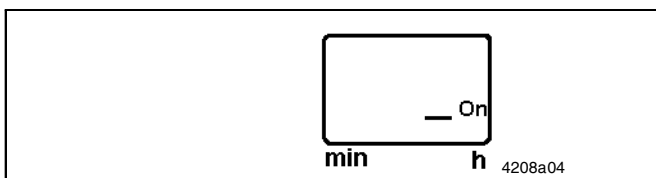

Fig. 18 Green segment right, supply voltage switched on
- As soon as voltage is applied (On), the lower right-hand segment in the display window flashes (fig. 18).